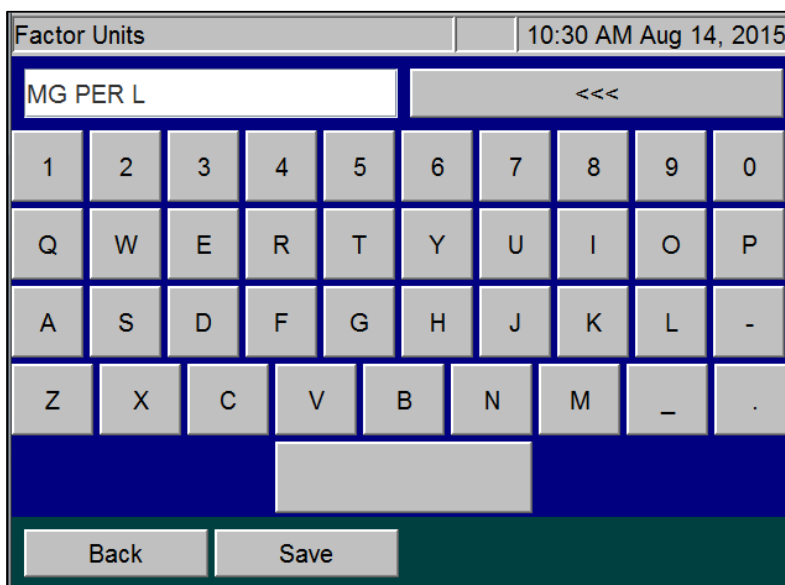

Figure 72: Configuring the Factor Units
- Press the **Factor Units** button and use the alpha/numeric keypad to type the units identifier (up to 10 alpha/numeric characters), such as *MG PER L* (Figure 72).